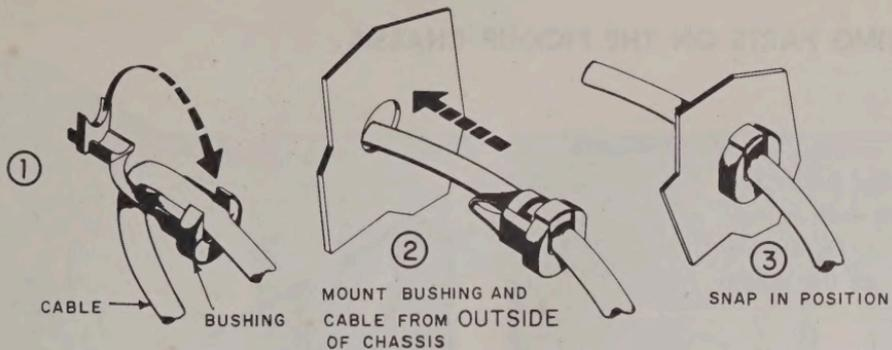

FIGURE 3. BUSHING MOUNTING
- Fasten the 2-conductor cable to the back of the case with one of the bushings as shown in Figure 3.